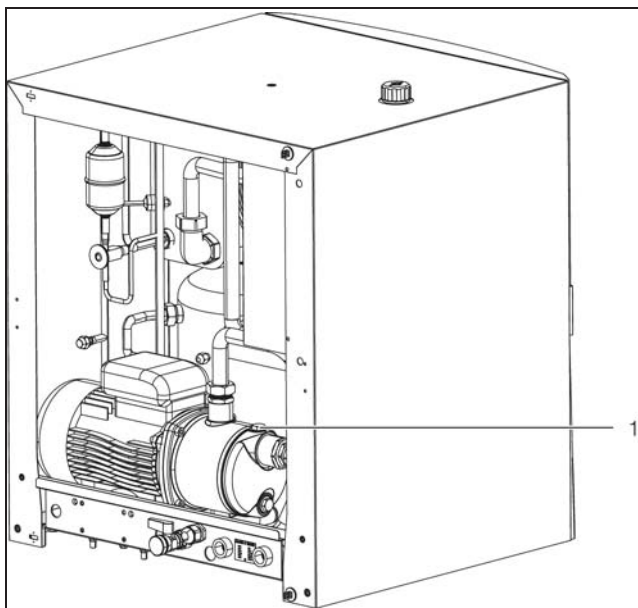
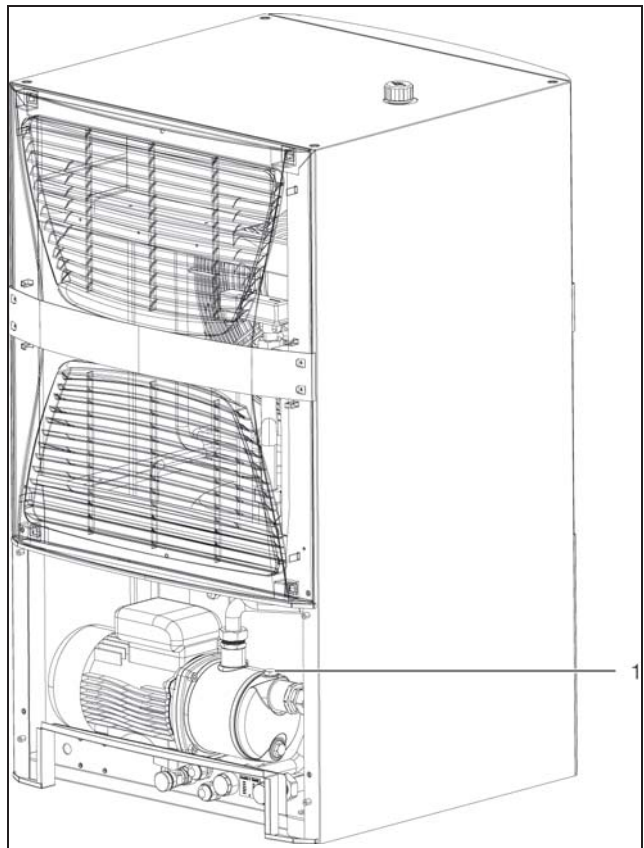

Fig. 53: Bleeding the cooling medium pump (3320.600 and 3334.600 only)
Fig. 54: Bleeding the cooling medium pump (3334.660 only)
- Bleed the cooling medium pump (with the system at a standstill) by loosening the bleed screw a little (fig. 53 or fig. 54, item 1).